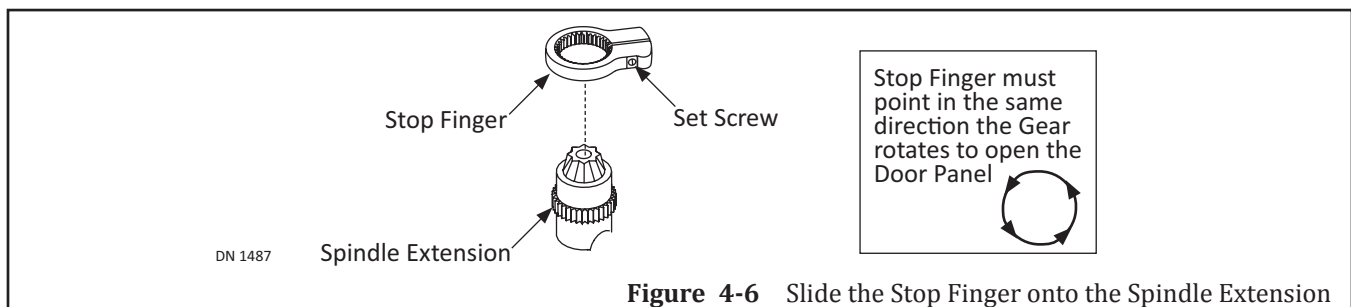

Figure 4-6 Slide the Stop Finger onto the Spindle Extension
2. Slide the Stop Finger onto the Spindle Extension. Please see Figure 4-6.